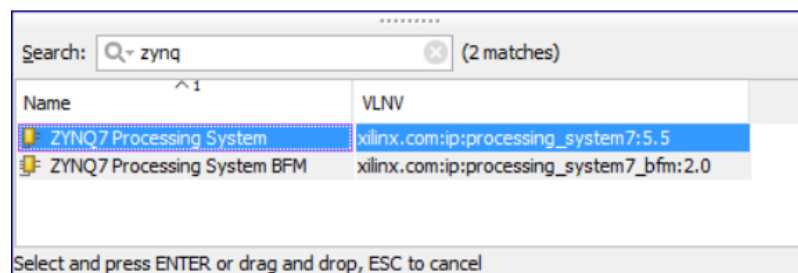

Figure 2.9: Adding ZYNQ7 Processing System from IP Catalog
- (d) Enter **zynq** in the search field and select the **ZYNQ7 Processing System**, ensuring that you select the option for *Version 5.4*, as shown in Figure 2.9, and press the **Enter** key on your keyboard.